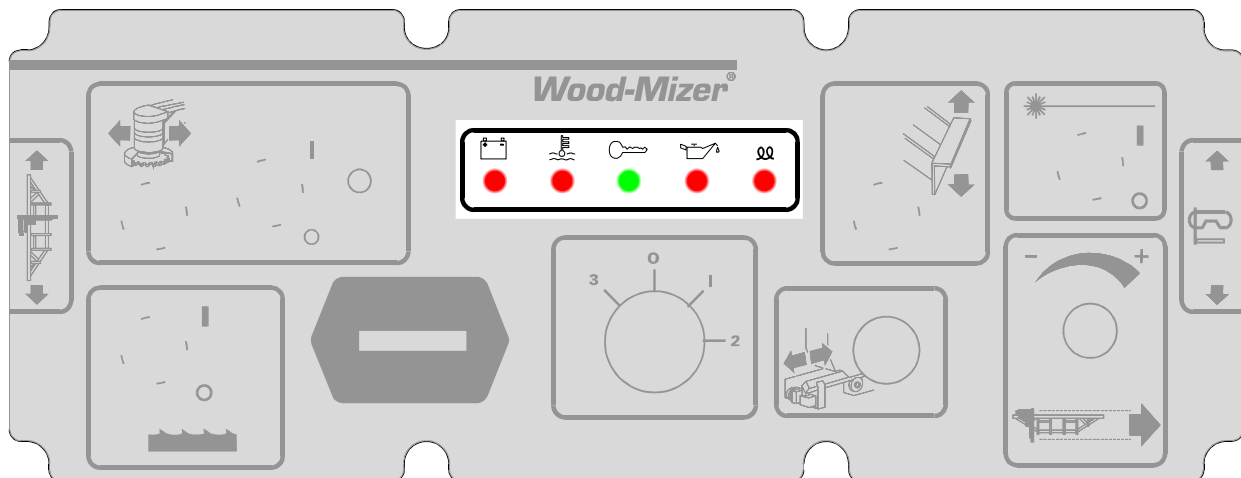

FIG. 2-1
**See Figure 2-1.** The following indicator lights are located on the sawmill control panel.